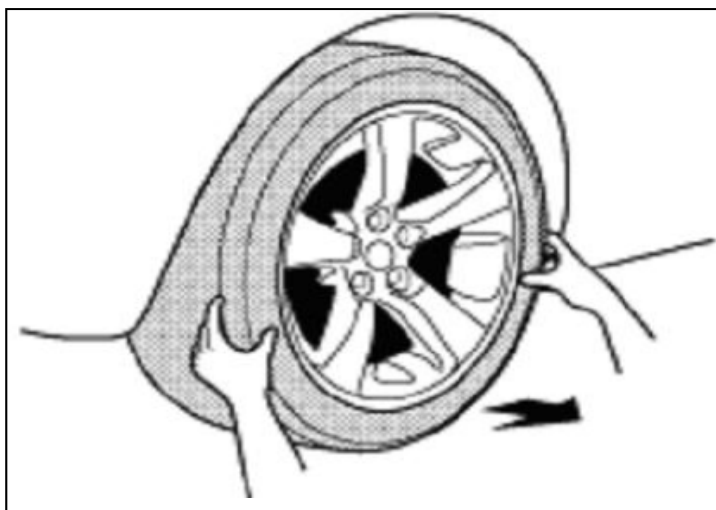

Figure 3a
- +** 4. Remove OE wheel and tire assemblies from the vehicle. Wear safety glasses while removing wheels. See Figure 3a.